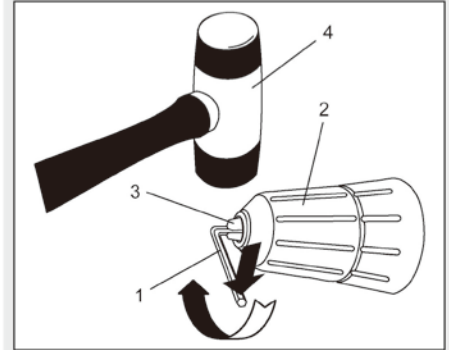
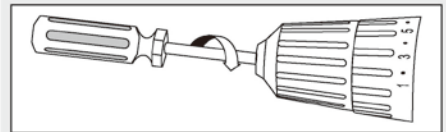

Fig. 13
Fig. 14
2. Insert a 5/16" (8 mm) or larger hex key (not included) (1) into the chuck (2) and tighten the chuck jaws securely (Fig. 13). Make sure each of the chuck jaws (3) is seated on the flat surfaces of the hex key.
3. Tap the hex key sharply with a mallet (4) (not included) in a clockwise direction. This action will loosen the screw in the chuck for easy removal.
6. Remove the chuck screw using a #2  $\oplus$  screwdriver (Fig. 14) (not included).